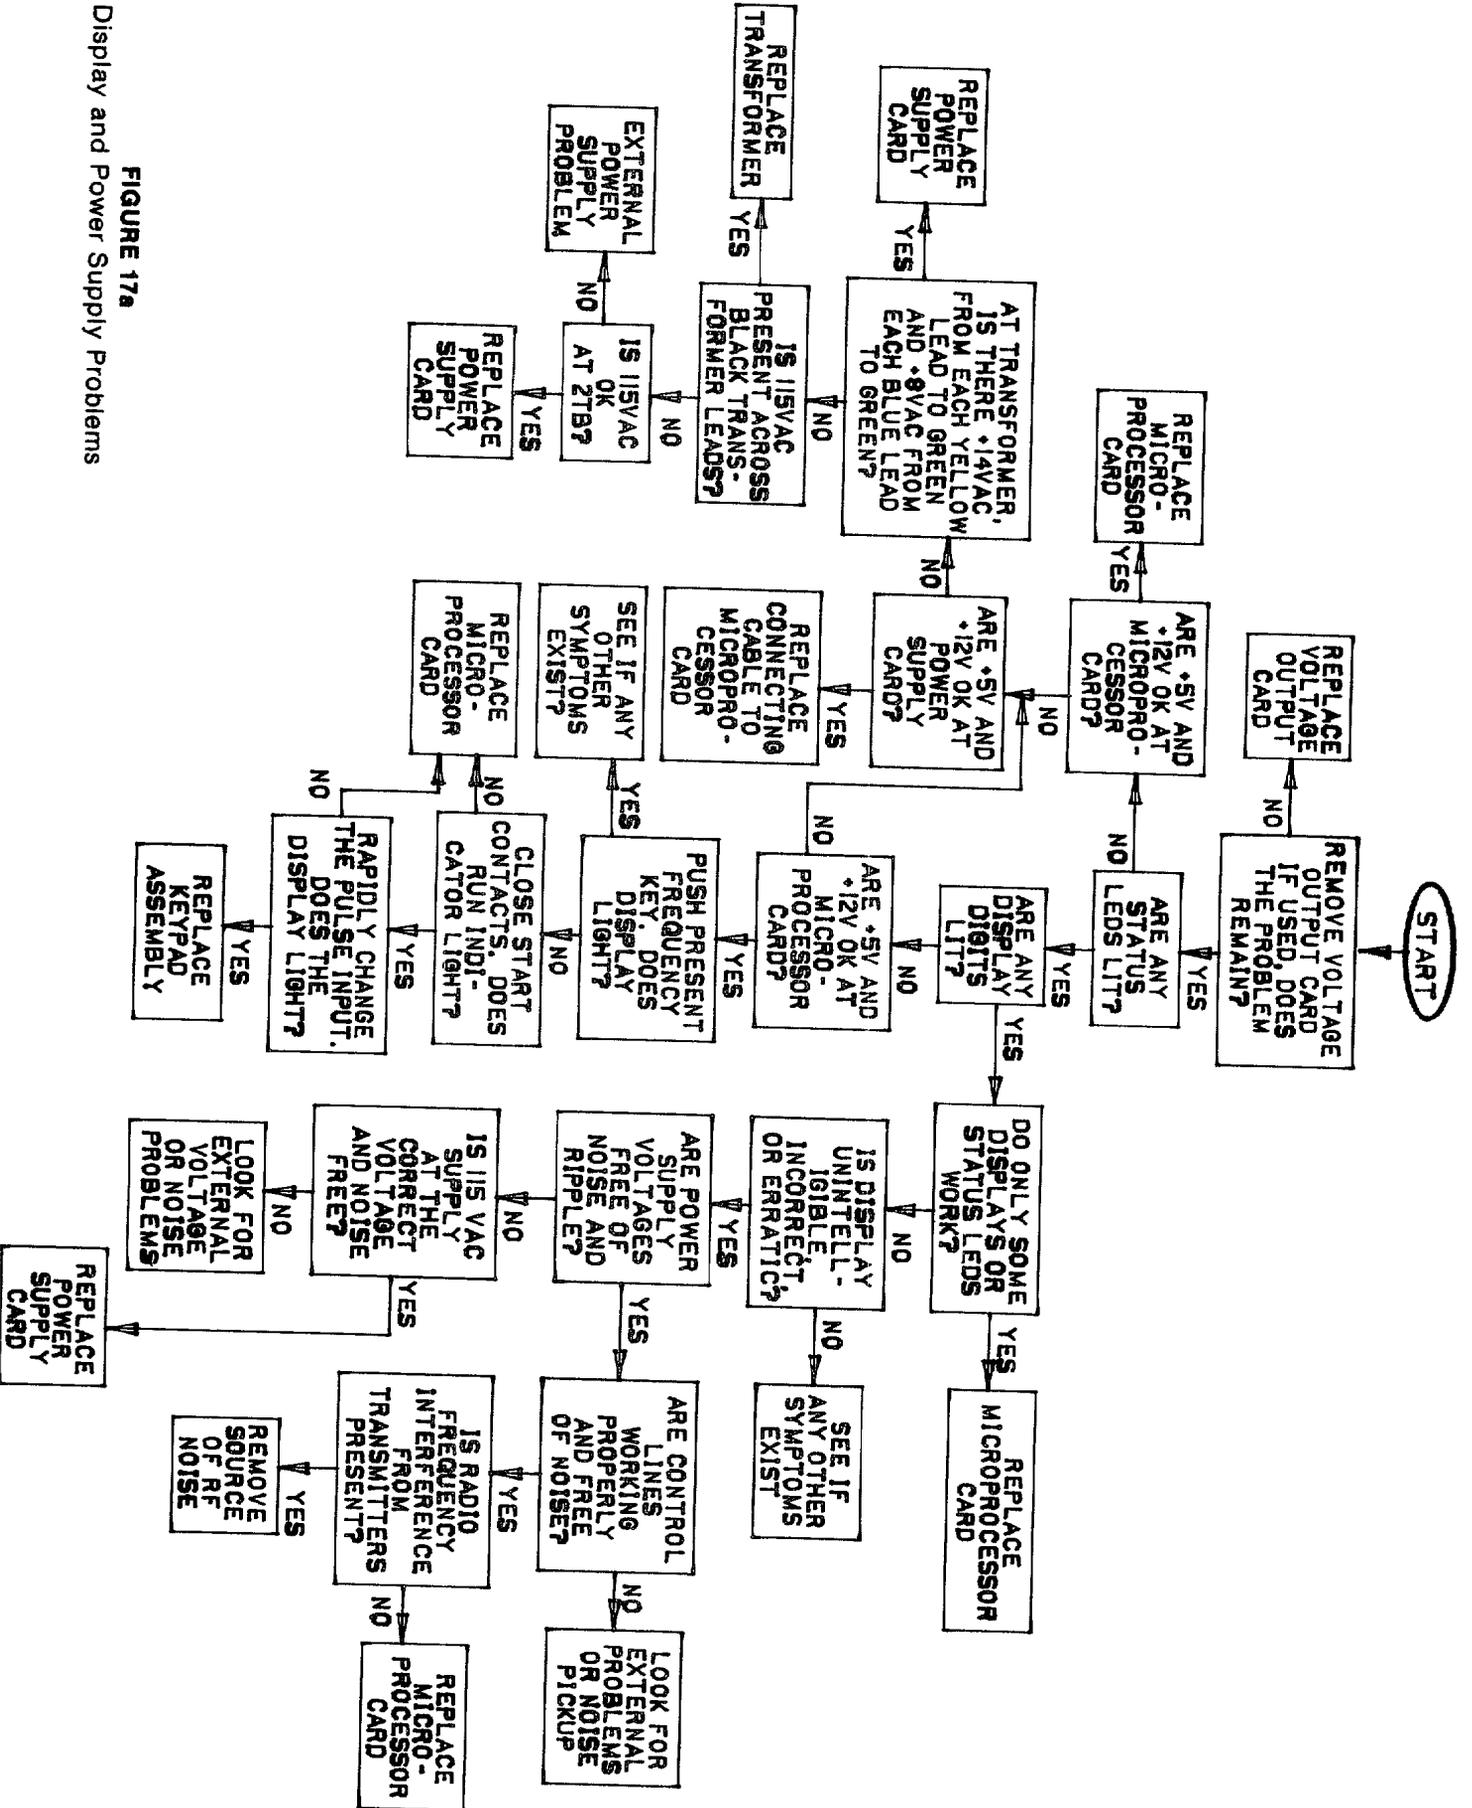

FIGURE 17a
1. Display, status LED and power supply problems: (Fig. 17a)